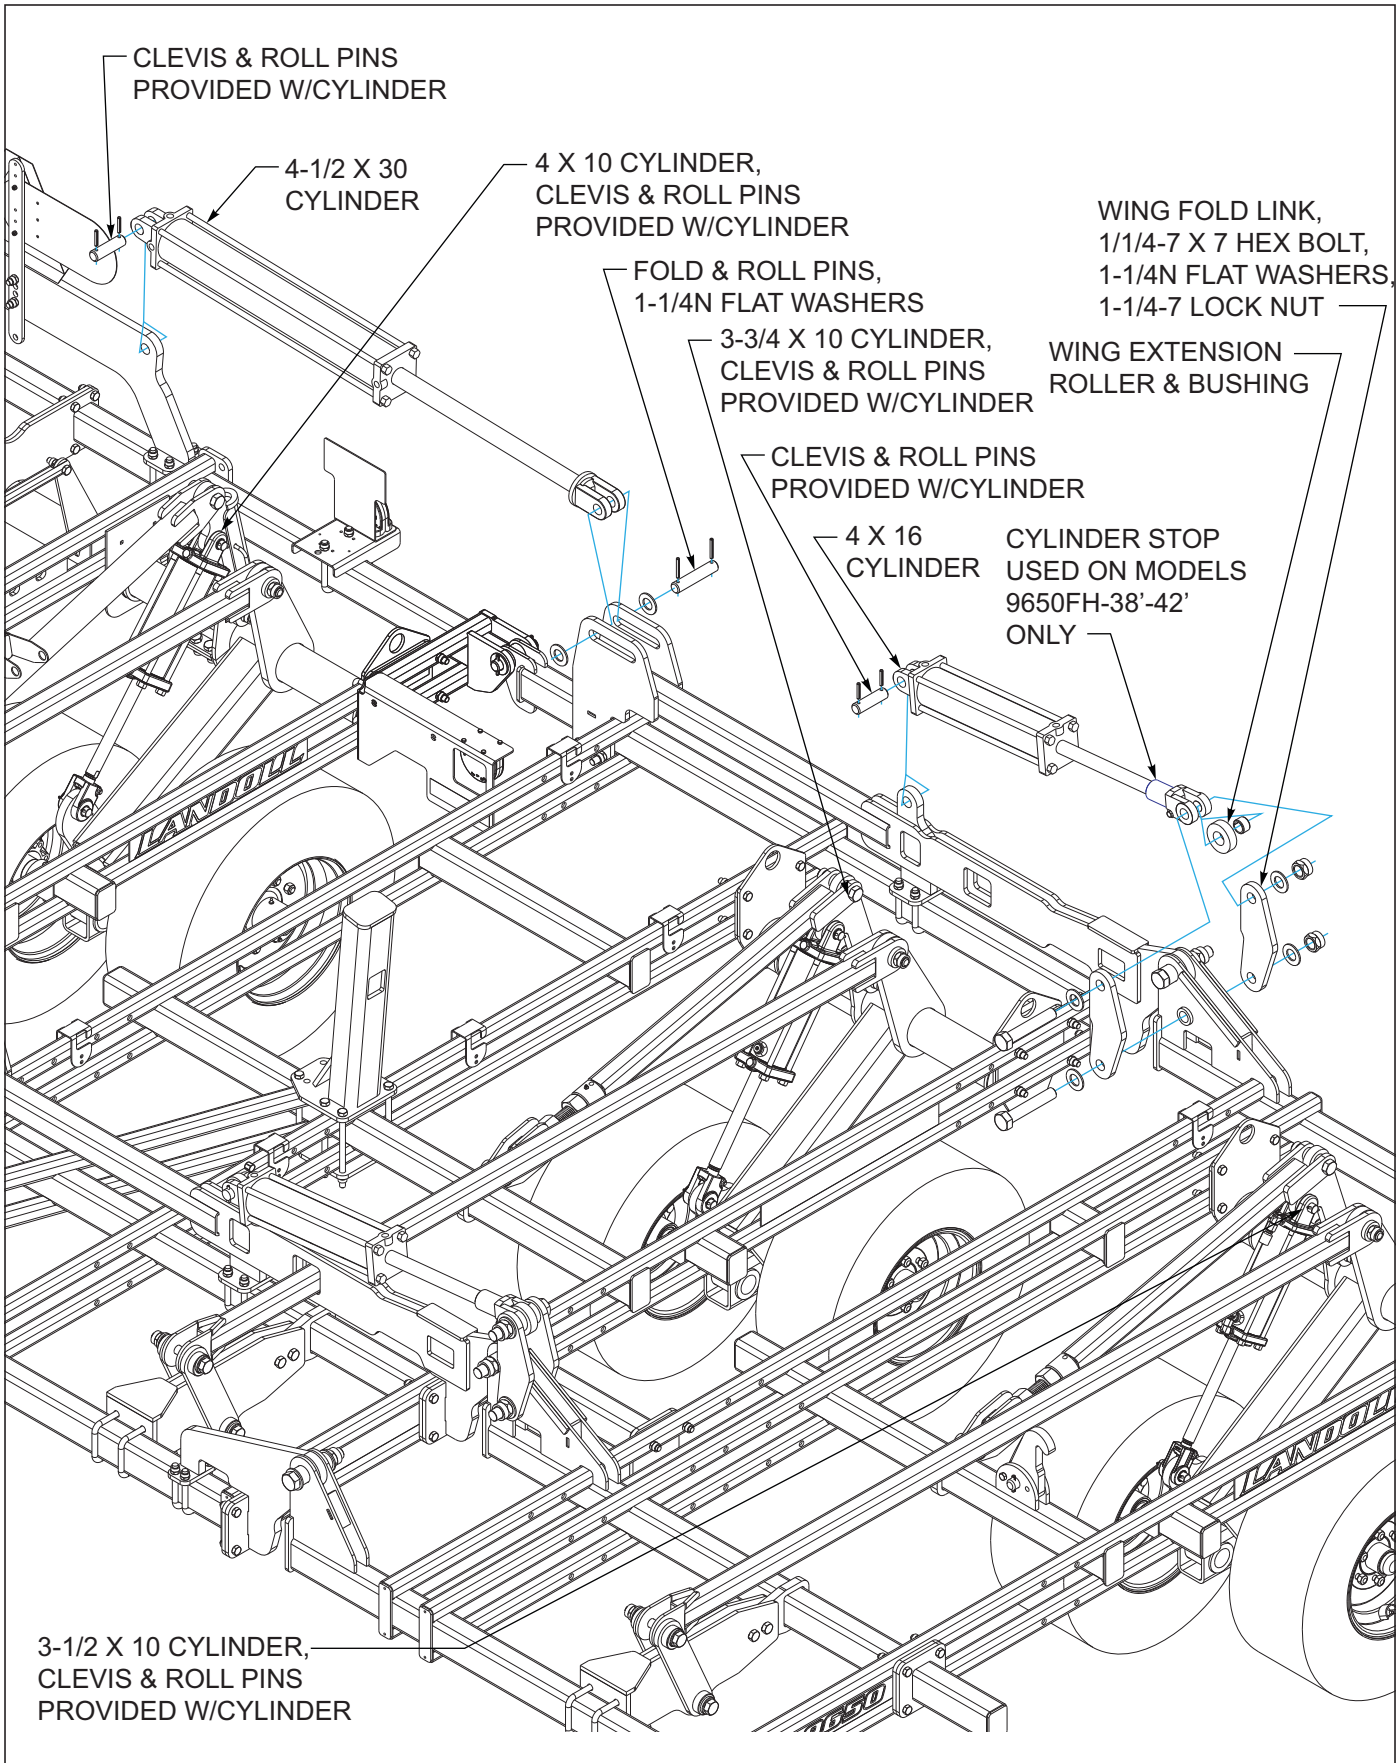

Figure 3-12: Fold Cylinder Installation
Refer to Figure 3-12 for hydraulic cylinder installation models 38' 9650FH 38'/42'.
2. Using 1-1/4 x 6-1/8 fold pin, 1-1/4N flat washers, and 5/16 x 2-1/2 spring slotted pins, attach the rod end of the 4-1/2 x 30 cylinders to the slotted mounts on the inner wing frames *See Figure 3-12*
3. Using a 1-1/4-7 x 7 hex head cap screw, flat washers, wing extension roller, and hex lock nut, attach the rod end of the 4 x 16 hydraulic cylinders to the fold links on the double hinge *See Figure 3-12* Do not over-tighten screws. Fold links should pivot freely without binding or dragging. Tighten screws to remove excess slack, but still allow fold links to flex, and rotate bolt by hand.